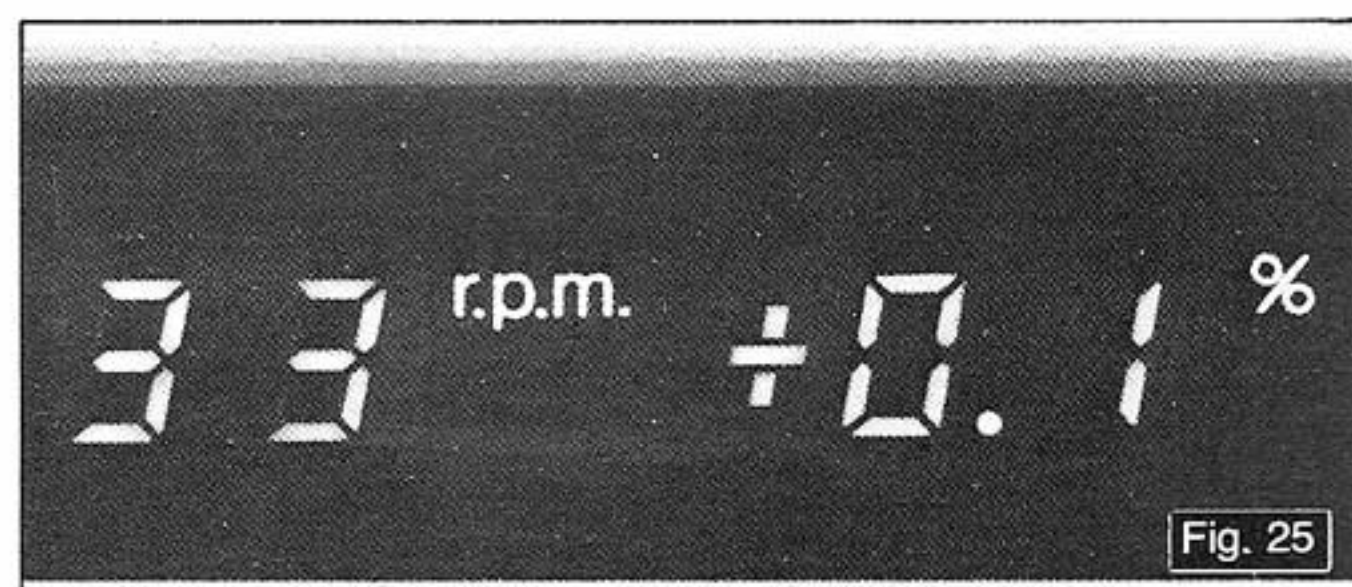

Fig. 25
- The pitch control can be selected in increments of 0.1% which is below the threshold of human perception. This function can be very effective for minor extension or reduction of broadcasting time in professional applications. (See Fig. 25).